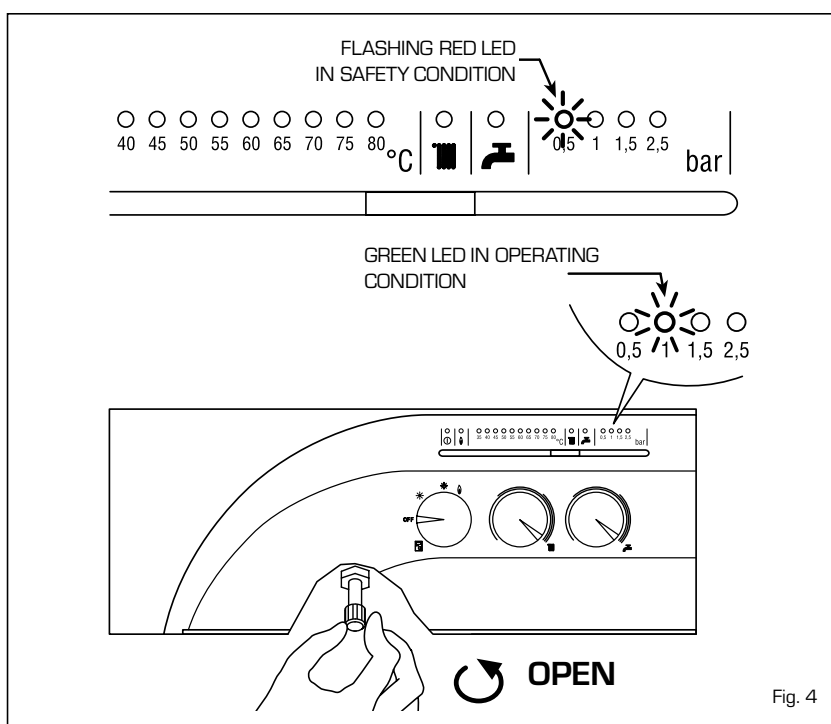

Fig. 4
– Insufficient water pressure (fig. 4)